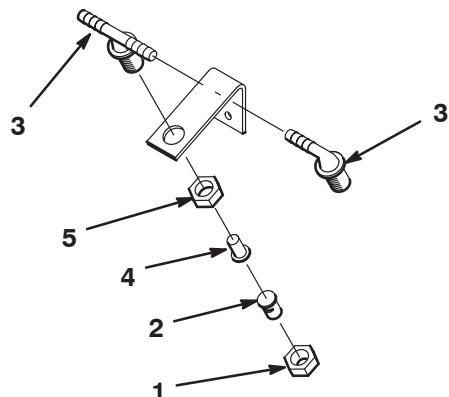

Figure 38
1. Loosen the cap on the bottom of the fitting (Fig. 38).
1. Loosen and remove the cap on the bottom of the fitting (Fig. 38).
2. Remove the nozzle and strainer assembly (Fig. 38). Clean or replace the strainer and replace it in the nozzle.